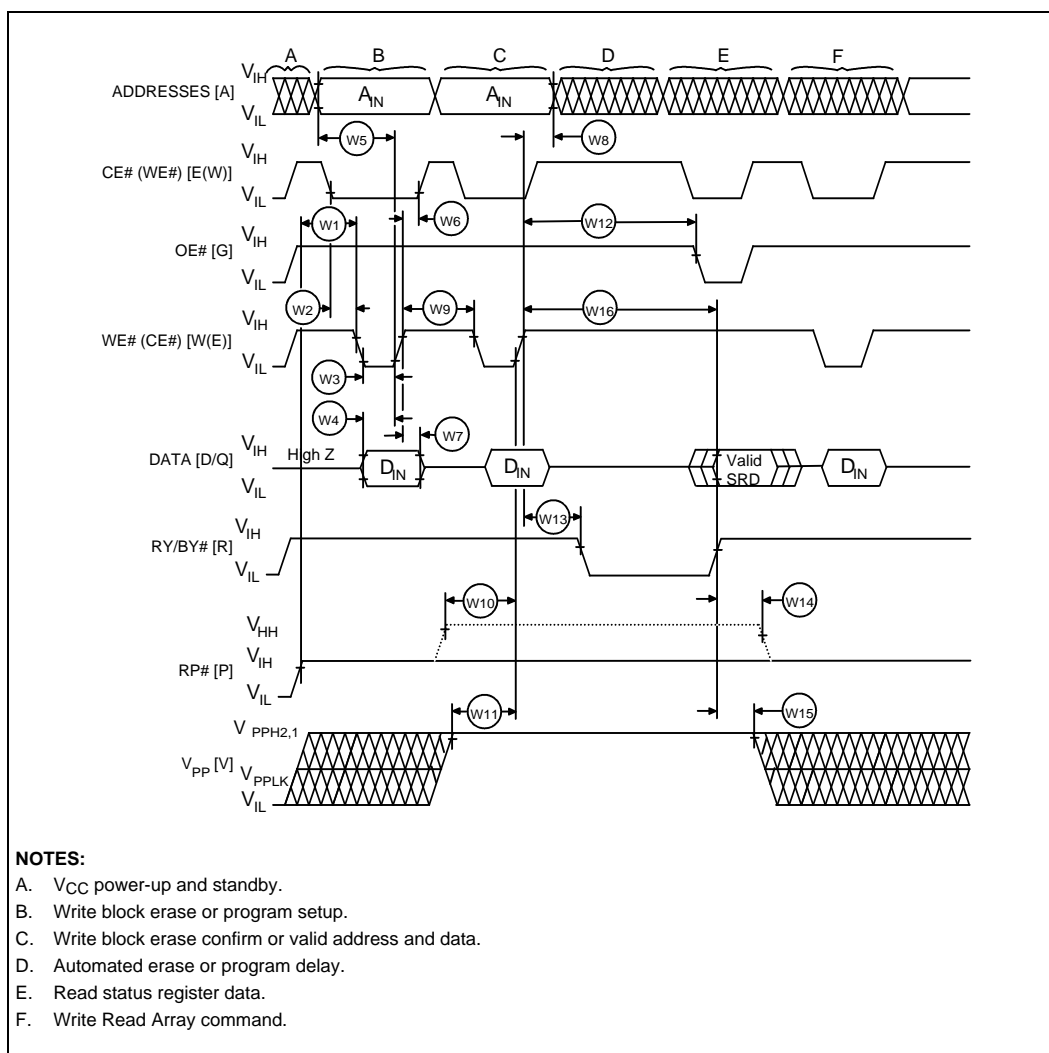

Figure 17. AC Waveform for Write Operations
5. Reference the AC waveform for write operations Figure 17.